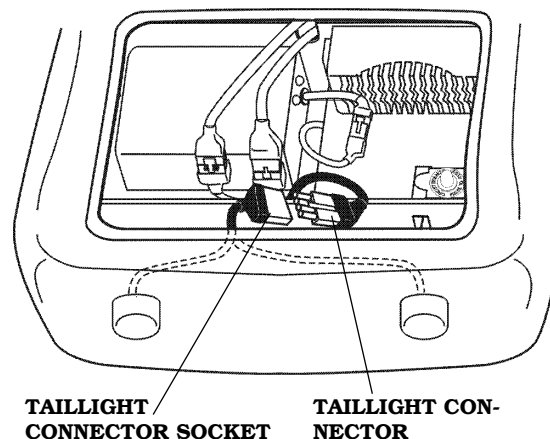

FIGURE 35. TAILLIGHT CONNECTOR
1. Position the taillight connector to fit into the taillight connector socket. See figure 35 (rear shroud shown with trunk lid opened).